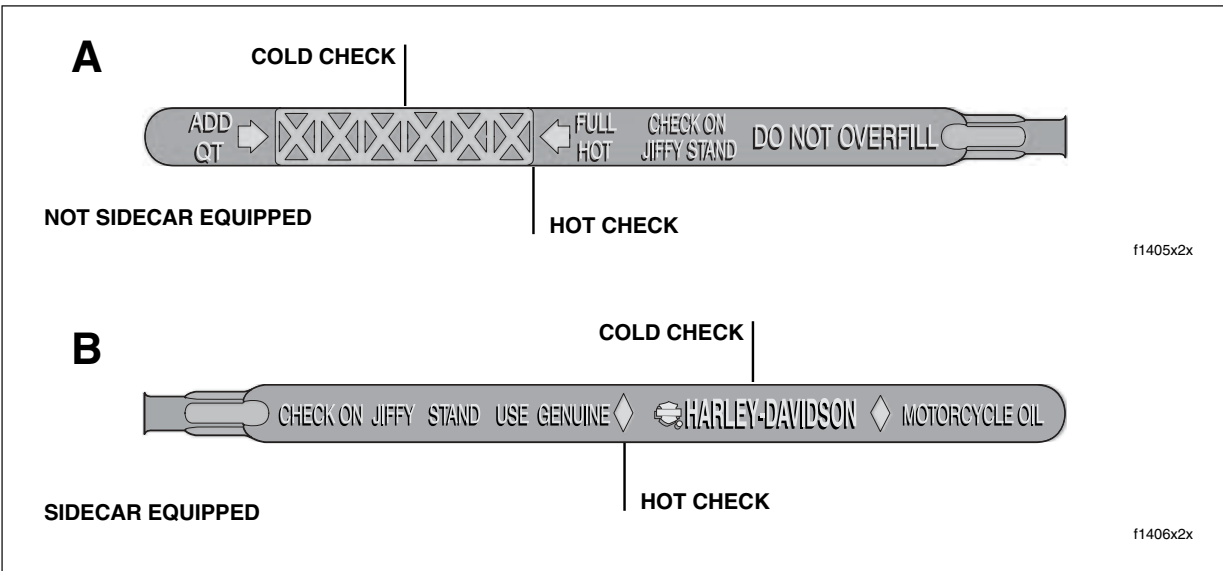

Figure 1-3. Check Engine Oil Dipstick
- Remove the dipstick and note the level of the oil. Oil level should register between the two arrows on the dipstick. See A of Figure 1-3. If oil level is at or below the lower arrow, add only enough oil to bring the level up between the two arrows.
If sidecar equipped (motorcycle upright on level ground), oil level should register between the two diamonds seen on the reverse side of the dipstick. See B of Figure 1-3. If oil level is at or below the lower diamond, add only enough oil to bring the level up between the two diamonds.
- Remove the dipstick and note the level of the oil. Add only enough oil to bring the level to the **FULL HOT** mark on the dipstick. See A of Figure 1-3. Do not overfill.
If sidecar equipped (motorcycle upright on level ground), add only enough oil to bring the level to the upper diamond seen on the reverse side of the dipstick. See B of Figure 1-3.